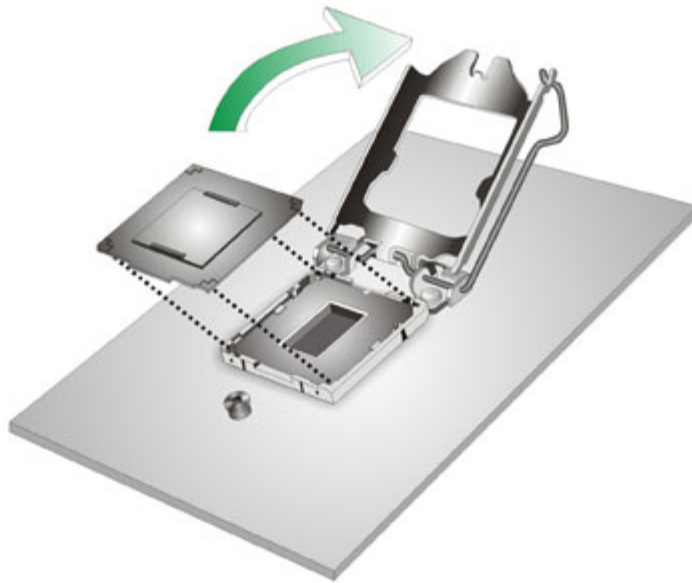

Figure 4-2: Remove Protective Cover
Step 2: **Open the socket and remove the protective cover.** The black protective cover can be removed by pulling up on the tab labeled "Remove". See **Figure 4-2**.